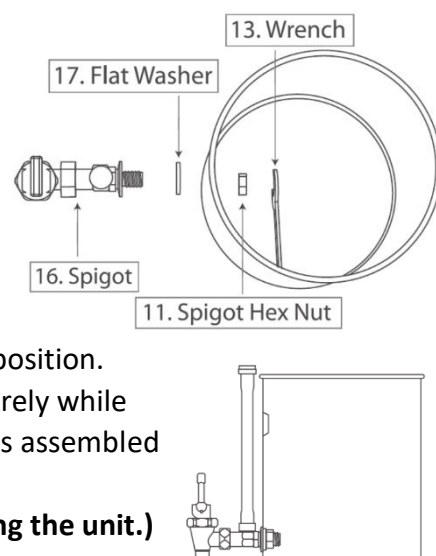

Figure 2
1. Unscrew the Hex Nut (11) from the Spigot (16), and verify the Flat Washer (17) is attached to the Spigot on the threads.
5. Use the Wrench (13) to tighten the Hex Nut securely while ensuring the Spigot remains upright so everything is assembled as shown in Figure 2.